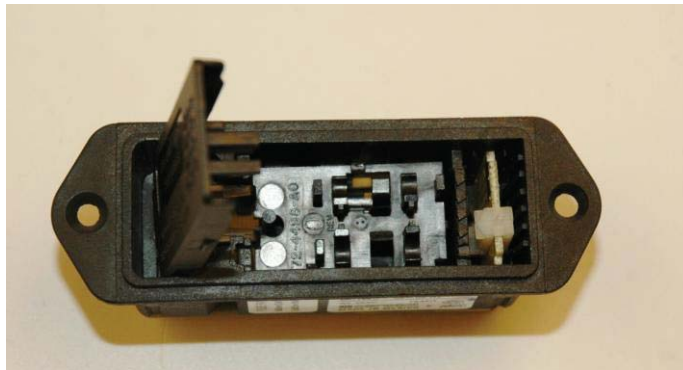

Figure 9
Step 4: Re-install the PCB, as shown in Figure 9, making sure that the lettering on the PCB faces into the housing and the PCB is firmly seated.